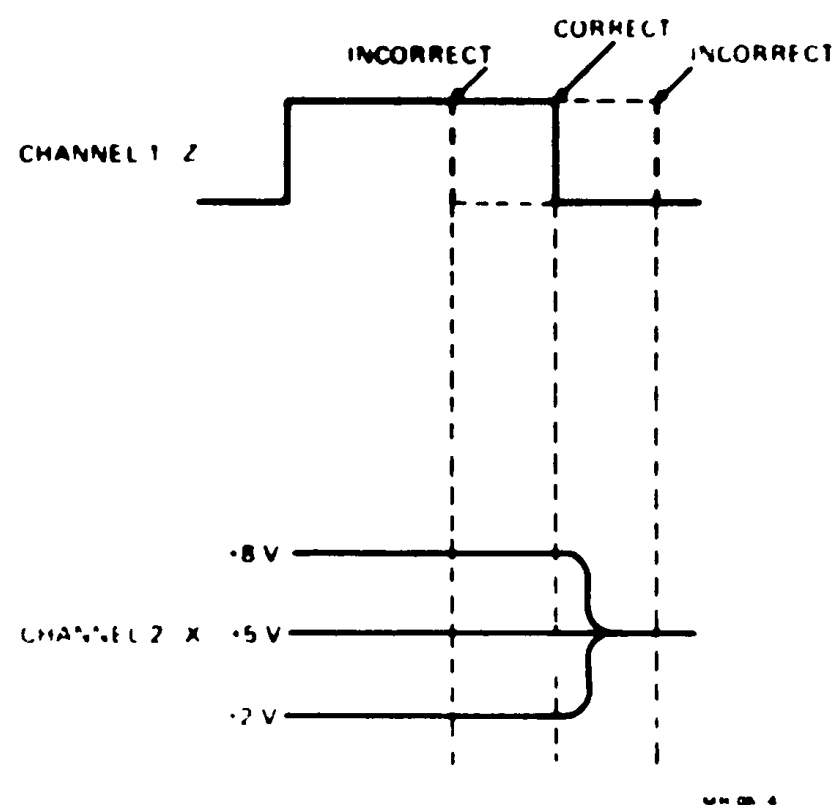

Figure 6-2 Z-Pulse Adjustment
- 10 Adjust the appropriate Z-delay potentiometer to position the trailing edge of the Z pulse as far to the right as possible in the flat portion of the X signal (Refer to Figure 6-2)